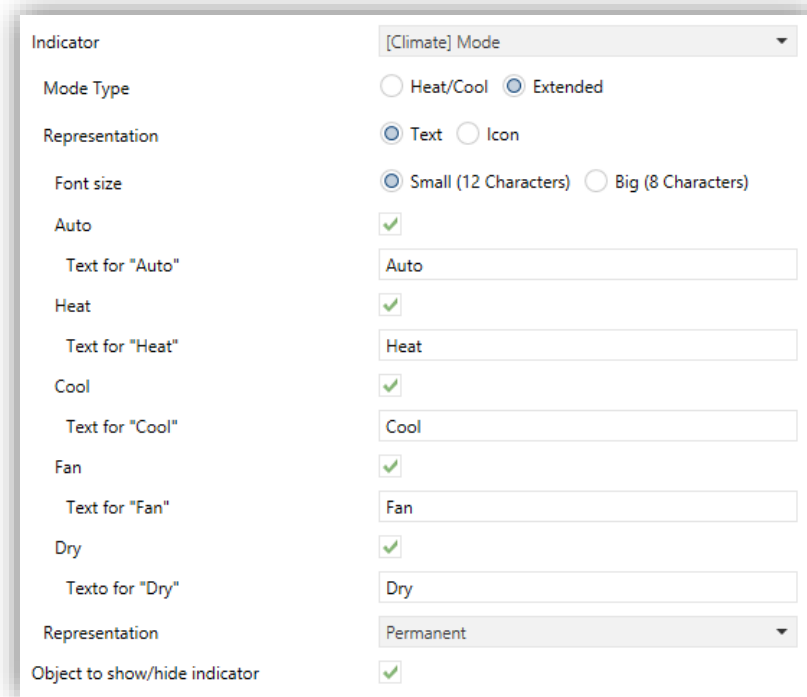

Figure 28. Display indicator – [Climate] Mode – Mode Type: Extended.
- [*Extended*]: the icon represented will depend on the value of the “[Disp] [x] (Climate) Mode - Extended” one-byte object. When selecting this type, five checkboxes appear to select which HVAC modes should be available: **Auto / Heat / Cool / Fan / Dry** (as shown in Figure 28).